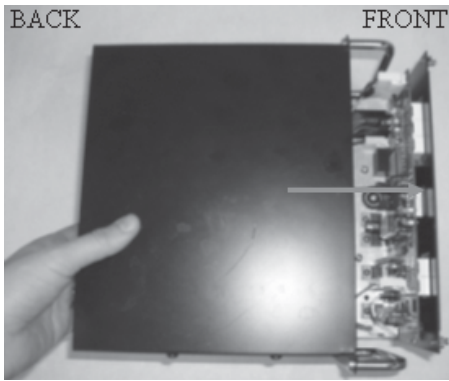

Figure 2: Sliding the Chassis Assembly Out
5. Push on the back panel of the control unit chassis, as shown in Figure 2, allowing the chassis assembly to slide out the front of the control unit case.